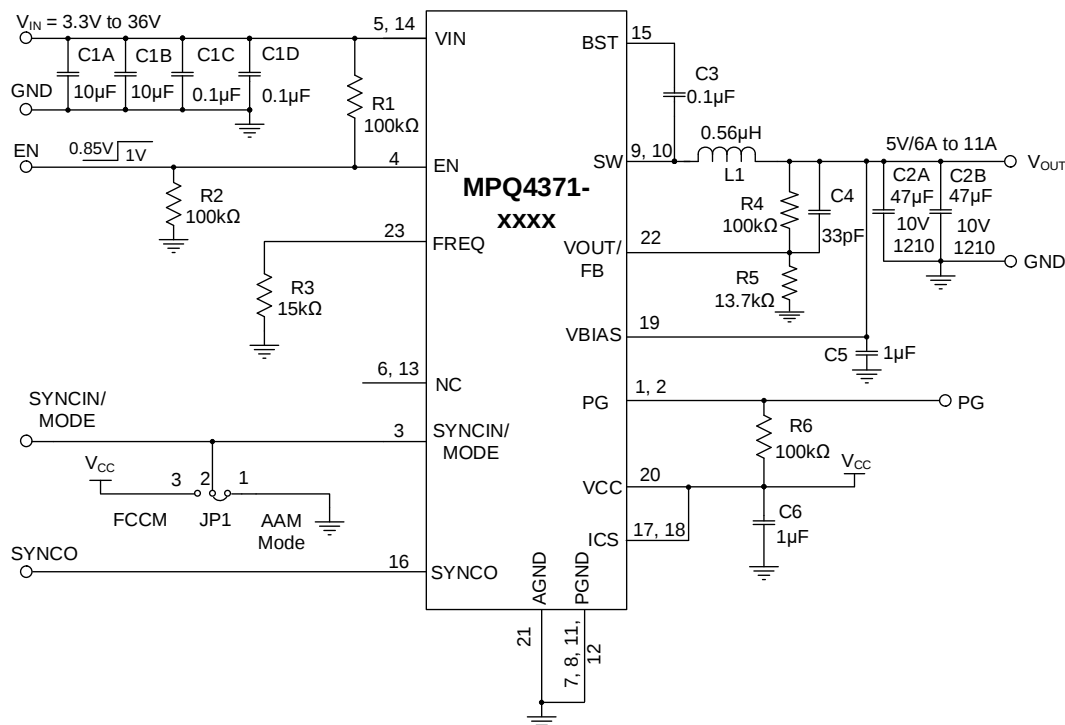

Figure 15: Typical Application Circuit (Single-Phase,  $V_{OUT}$  Adjustable for the MPQ4371-xxxx,  $V_{OUT} = 5V$ ,  $f_{sw} = 2.2MHz$ )
- 15) The recommended PCB layout is based on Figure 15 on page 75.